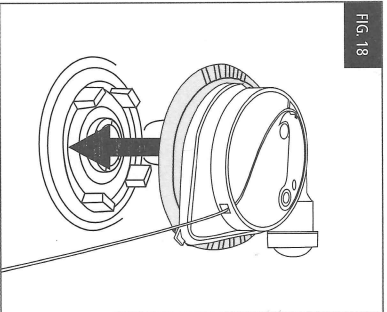
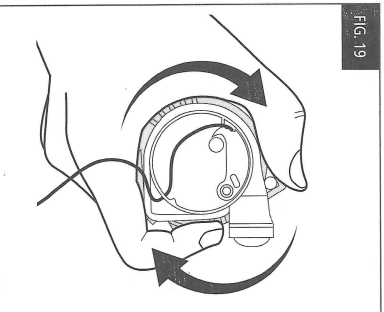

FIG. 18
FIG. 19
8. While holding the CO₂ cylinder through the bladder fabric, align the new inflator cap on the inflator body (Fig. 18) with the water inlet valve pointing to the right, press down **FIRMLY**, and rotate the **BLACK** locking ring clockwise behind the yellow inflator cap. The black ring will click into place (Fig. 19). Pull on the cap to ensure that it is securely locked into the inflator body.